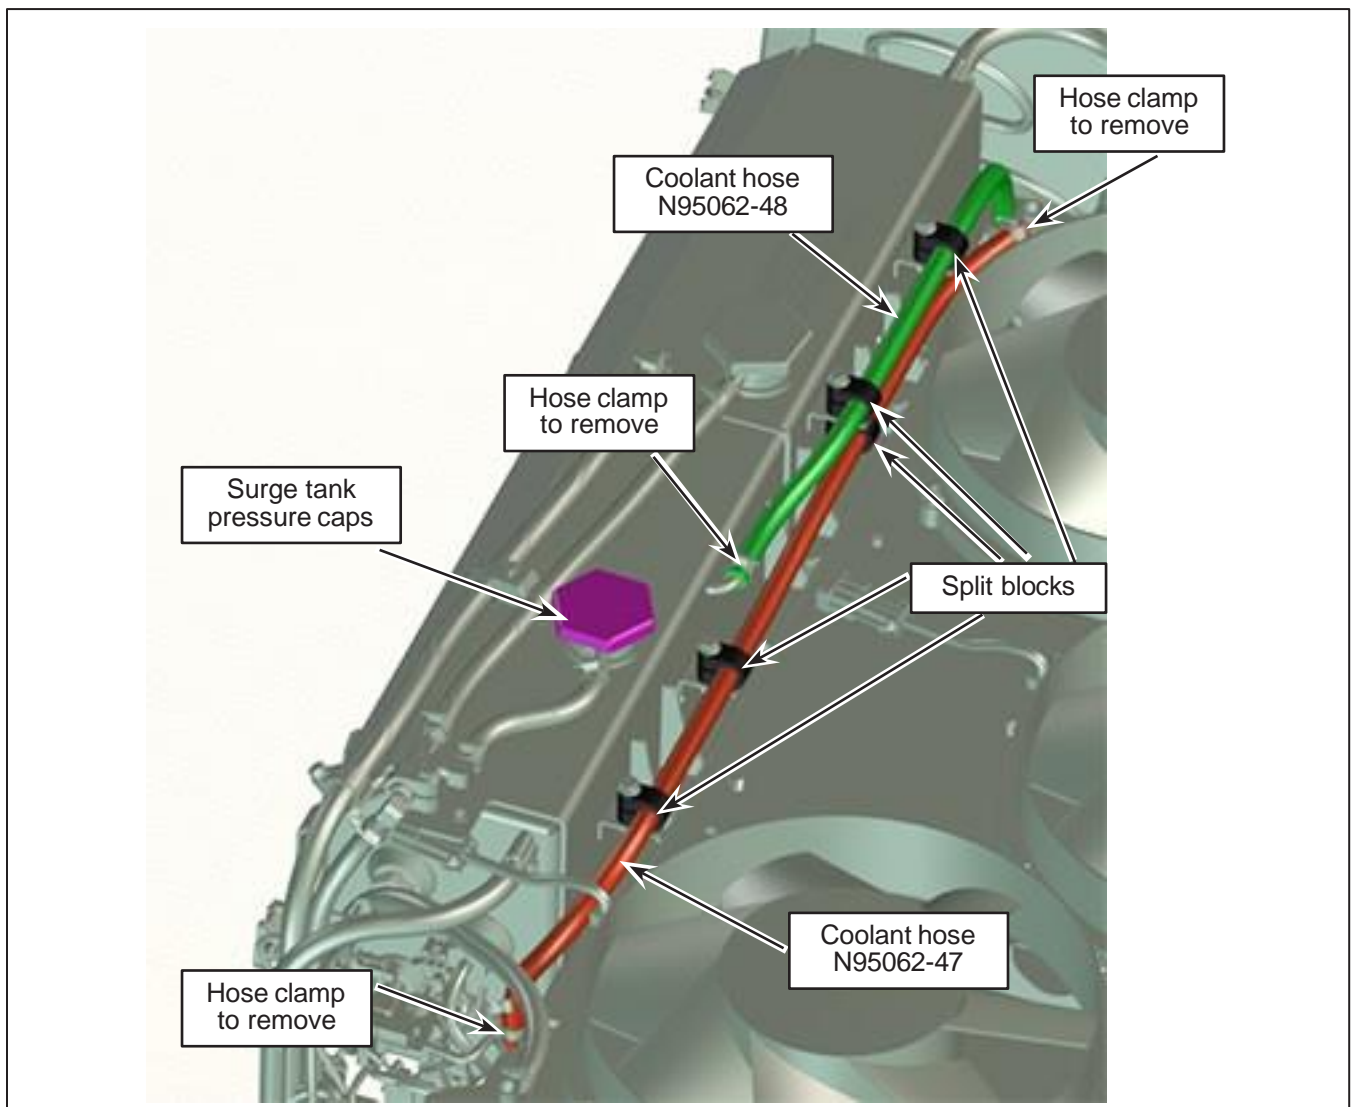

Figure 5 - Coolant Hose and Hardware to Remove
- 1.13. Install the retained surge tank pressure caps. See Figure 5.
- 1.14. Remove and discard the split block fixing the hoses to remove to the surge tank. Retain the hardware. See Figure 5.
- 1.15. Remove and discard the hose clamp fixing the hoses to remove from the surge tank. See Figure 5.
- 1.16. Remove the hose clamp fixing coolant hose N95062-47 to the radiator. See Figure 5.
- 1.17. Disconnect coolant hose N95062-47 from the radiator. See Figure 5.
- 1.18. Disconnect coolant hose N95062-47 and N95062-48 from the surge tank. See Figure 5.